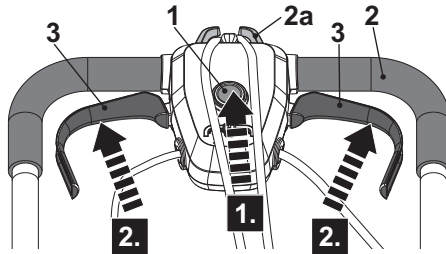

Fig. 16
1. Stand behind the grip handle (2).
2. While holding the safety switch button (1) pressed (Fig. 16, step 1), pull the start levers (3) towards the grip handle (2) (Fig. 16, step 2).
3. After the mower starts, release the safety switch button (1).
5. Release the start levers (3) to stop the mower.